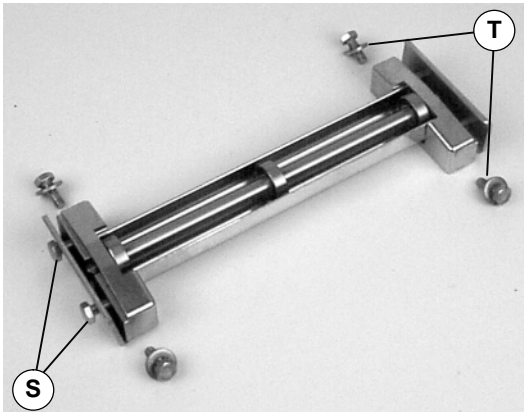

Figure 16
### 2. Loosen screws (S of Figure 16) and remove screws and washers (T).